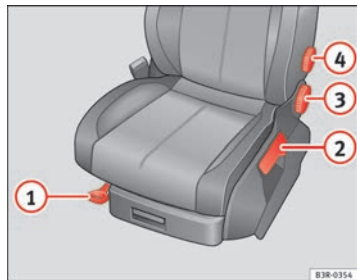

Fig. 105 Adjuster controls on driver seat
- Lift the lever ① ⇒ fig. 105 and move the seat to the desired position.
- Then release the lever ① and move the seat further until the catch engages.
- Pull the lever ② ⇒ fig. 105 up repeatedly until the seat is in the desired position.
- Turn the adjuster wheel (3) ⇒ page 134, fig. 105 to set the angle of the backrest as required.
- Do not exert any pressure on the backrest and turn adjuster wheel (4) ⇒ page 134, fig. 105 to adjust lumbar support.